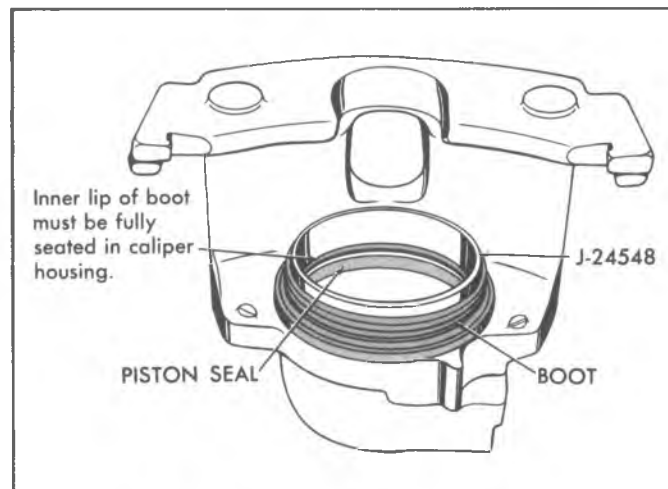

Fig. 106--Installing Caliper Piston Boot
2. Lubricate both sealing lips of the dust boot and the piston with a light film of clean brake fluid. Place the new boot over Piston Installer Tool J-24548. This is most easily accomplished by placing the boot large diameter over the tool first, then riding the smaller diameter onto the tool. The large diameter lip must then be slid off the tool to make ready for installation into the bore groove. Install the boot (large bead) into the piston bore groove by reaching inside of Tool J-24548 and pressing the boot bead into the groove (fig. 106).